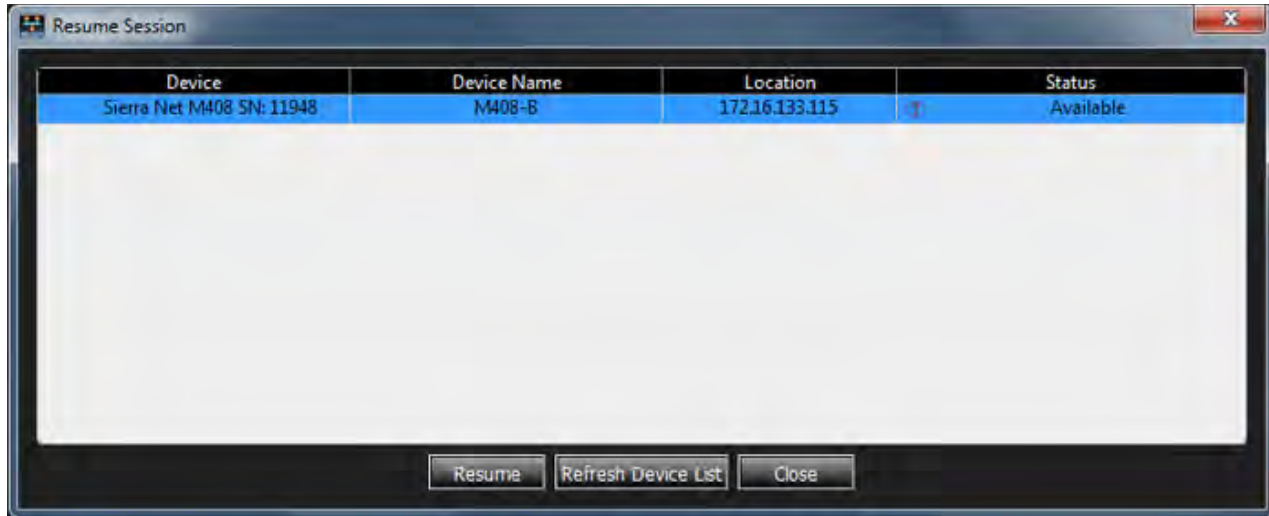

Figure 3.9: Analyzer Used During Previous Recording
- You will first be prompted for the analyzer you were using during your session. See Figure 3.9.
- If you changed host machines to open the application, you will be prompted for the Session Key that you entered when you Closed the Project or Exited the Application. See Figure 3.9.